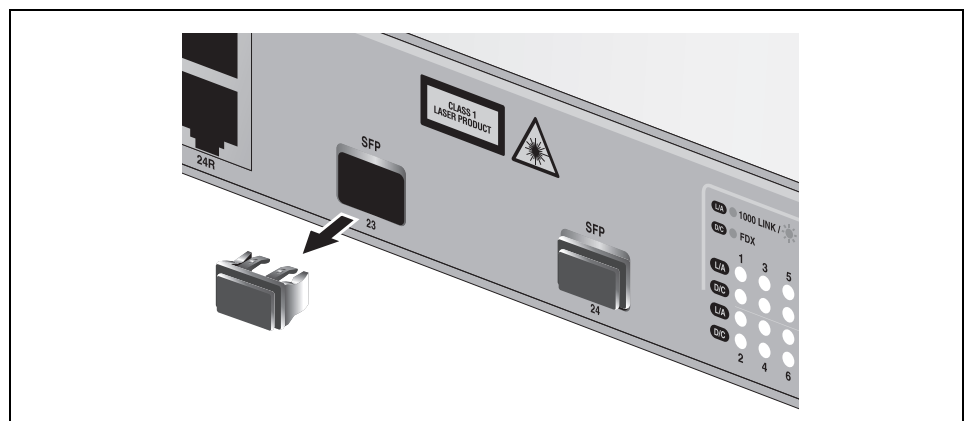

Figure 21. Removing a Dust Plug for an SFP Slot
1. Remove the dust plug from a transceiver slot on the switch, as shown in Figure 21.